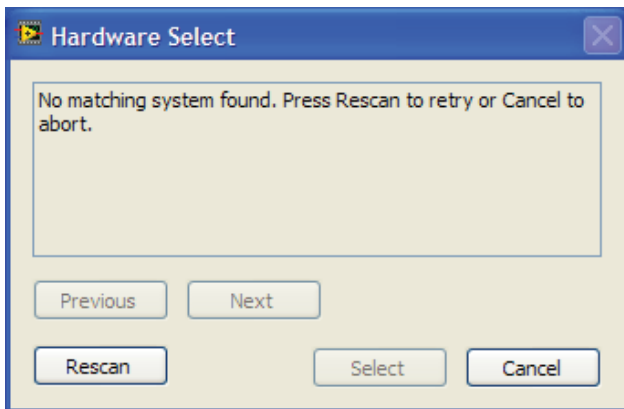

Figure 2. **Hardware Select** Window
2. If the EVAL-SDP-CB1Z board does not connect to the USB port when the software launches, a connectivity error displays (see Figure 2). Connect the evaluation board to the USB port of the PC, wait a few seconds, click **Rescan**, and follow the instructions.